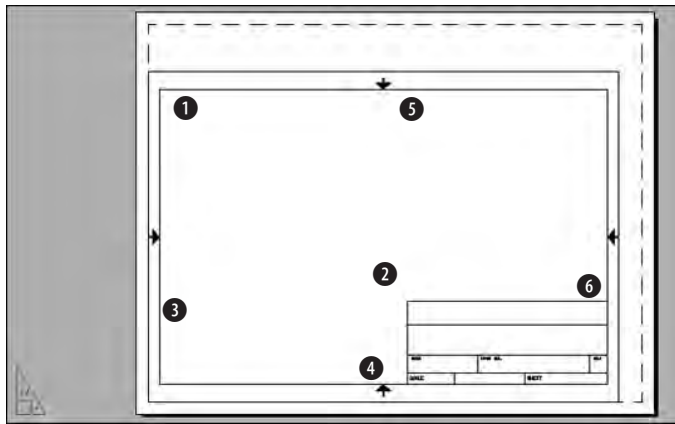

Figure 17-12: The title block inserted into paper space
7. Choose **Insert** ⇨ **Block** to open the Insert dialog box. Click **Browse**. Choose **ab-a-blk.dwg** from the CD-ROM and click **Open**. In the **Insertion Point** section of the dialog box, uncheck **Specify On-Screen**. Click **OK**. AutoCAD inserts the title block, as shown in Figure 17-12.
9. Choose **View** ⇨ **Viewports** ⇨ **1 Viewport**. (Turn **OSNAP** off if it is on.) At the **Specify corner of viewport or [ON/OFF/Fit/Shadeplot/Lock/Object/Polygonal/Restore/2/3/4]** <Fit>: prompt, choose ❶ in Figure 17-12. At the **Specify opposite corner:** prompt, choose ❷.
10. Click the right mouse button and then choose **Repeat 1 Viewport**. At the prompt, choose ❸ in Figure 17-12. At the next prompt, choose ❹ in Figure 17-12. Again repeat the command and choose ❺ and ❻ in Figure 17-12. You now see the drawing in the three viewports.